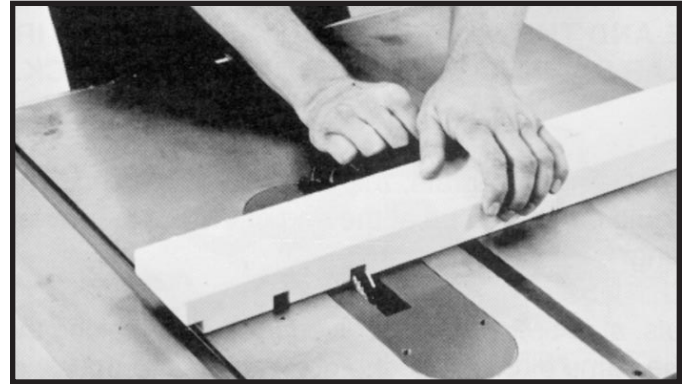

Fig. 41
The dado head set (D) Fig. 40, is assembled to the saw arbor as shown. **IMPORTANT:** The blade guard and splitter assembly cannot be used when dadoing and must be removed. Auxiliary jigs, fixtures, push sticks and feather boards should also be used. Also, the accessory dado head table insert Delta model 38122 (E) Fig. 40, must be used in place of the standard table insert. Fig. 41, shows a typical dado operation using the miter gage as a guide.